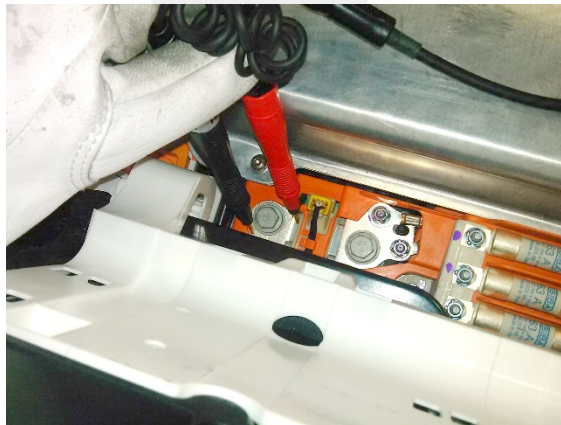

Figure 11
20. Use the Hioki resistance meter to measure the resistance at the HV joint between the rear drive unit HV header and the busbar at each bolt (Figure 11).